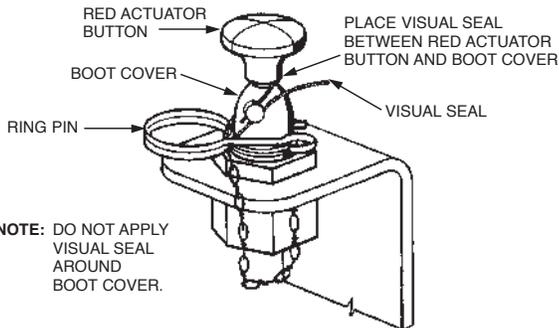

FIGURE 5-10
- Make certain ring pin is inserted through RED actuator button to ensure safe cartridge installation. See Figure 5-10.
- Seal ring pin to actuator stem with visual seal (Part No. 197). Make certain visual seal is looped through ring pin and around actuator stem. Do not wrap seal around boot cover. See Figure 5-10. **DO NOT INSTALL CARTRIDGE AT THIS TIME.**
- ▶ 6. Seal ring pin to actuator stem with visual seal (Part No. 197). Make certain visual seal is looped through ring pin and around actuator stem. Do not wrap seal around boot cover. See Figure 5-10, page 5-6. **DO NOT INSTALL CARTRIDGE AT THIS TIME.**